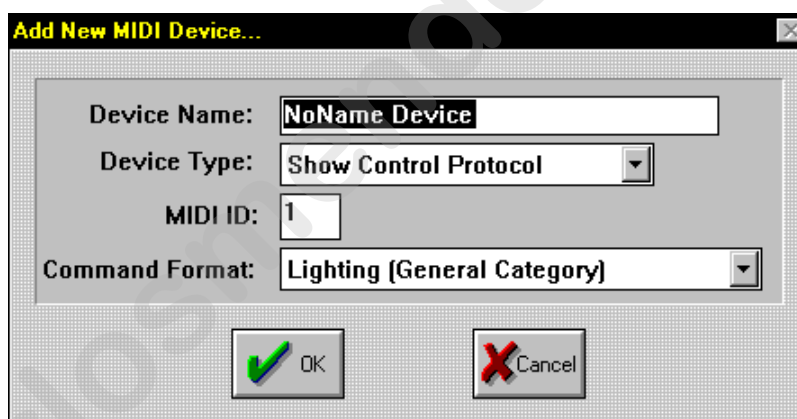

Figure 3.3. Add New MIDI Device... Dialogue Box
3. Type in the name of the new device in the **Device Name** field. Refer to Figure 3.3.